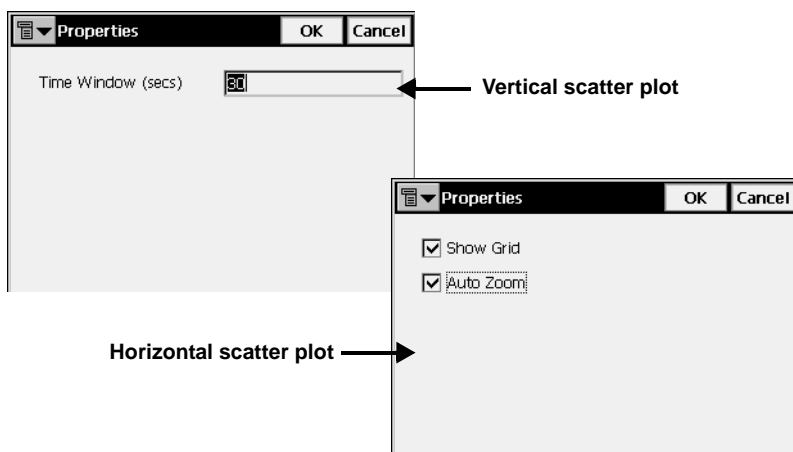

Figure 5-7. Properties (Scatter Plot)
- : opens the **Properties** screen from which to set graphical features for the scatter plots (Figure 5-7).